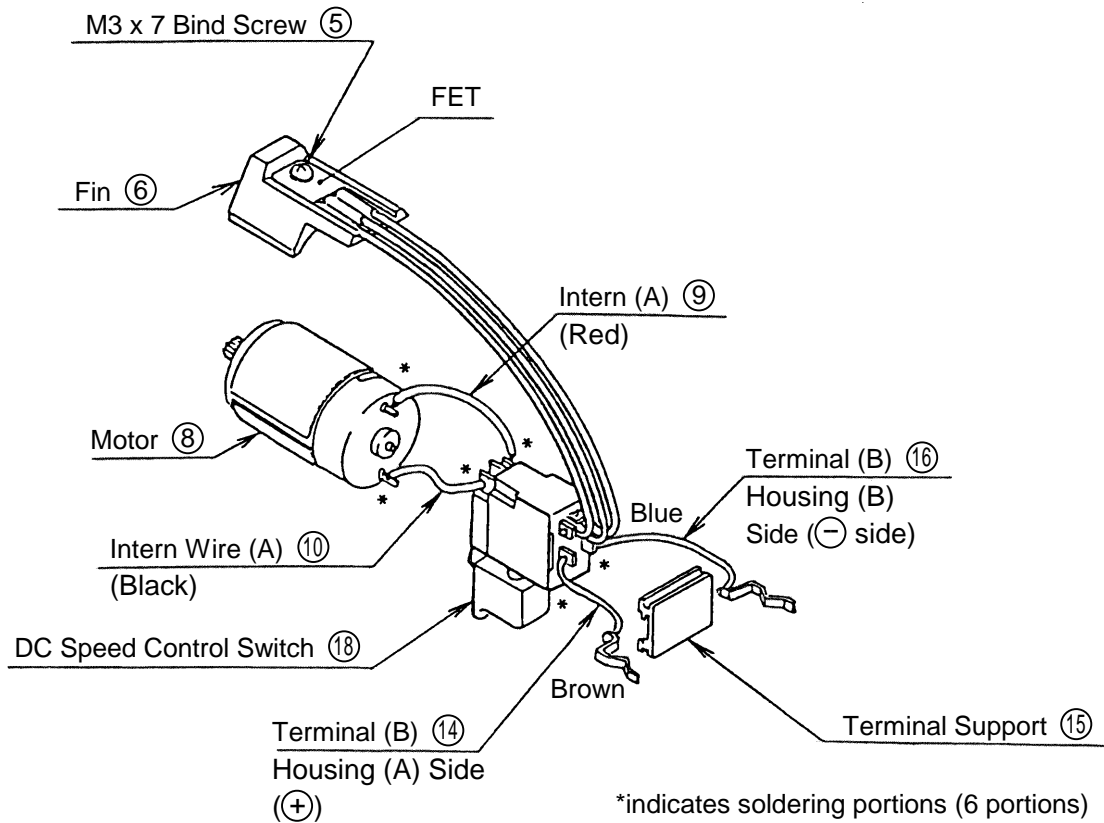

Fig. 2
(1) Ensure that the wiring of the Model DN 10DY is connected as shown in the diagram in Fig. 2.